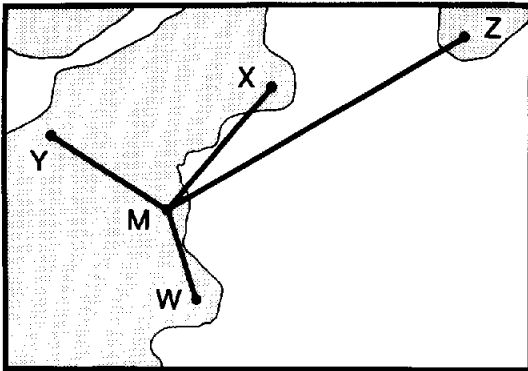

Figure 2
The Secondary stations are designated as Whiskey (W), Xray (X), Yankee (Y), or Zulu (Z) (see Figure 2). Each chain is assigned a unique time code called a Group Repetition Interval (GRI). The GRI is the time between the start of the Master station pulses and the beginning of the next series of Master pulses. The GRI is measured in microseconds (usec.). For instance, the U.S. West Coast chain is 9940. The GRI length of the U.S. West Coast chain from the beginning of the Master station pulse group to the start of the next one is 99,400 usec.